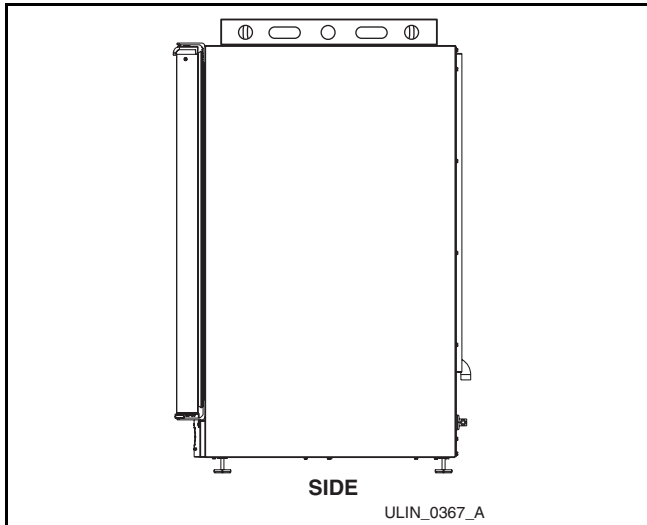
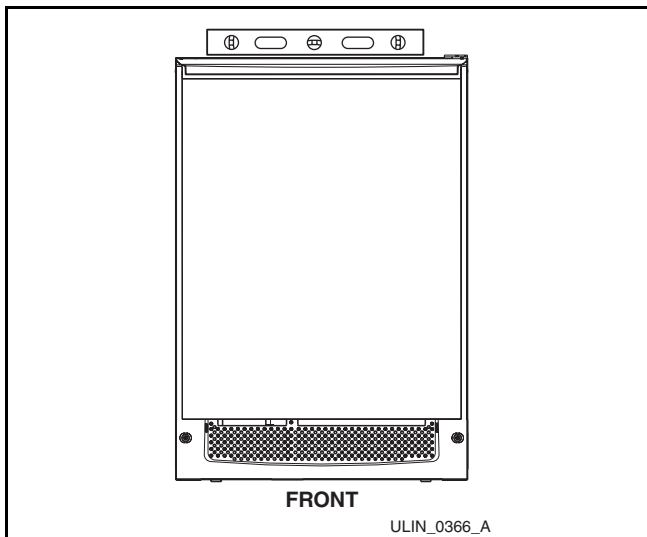

Figure 33
Figure 34
1. Use a level to check the unit from front to back (**Figure 33**) and from side to side (**Figure 34**).